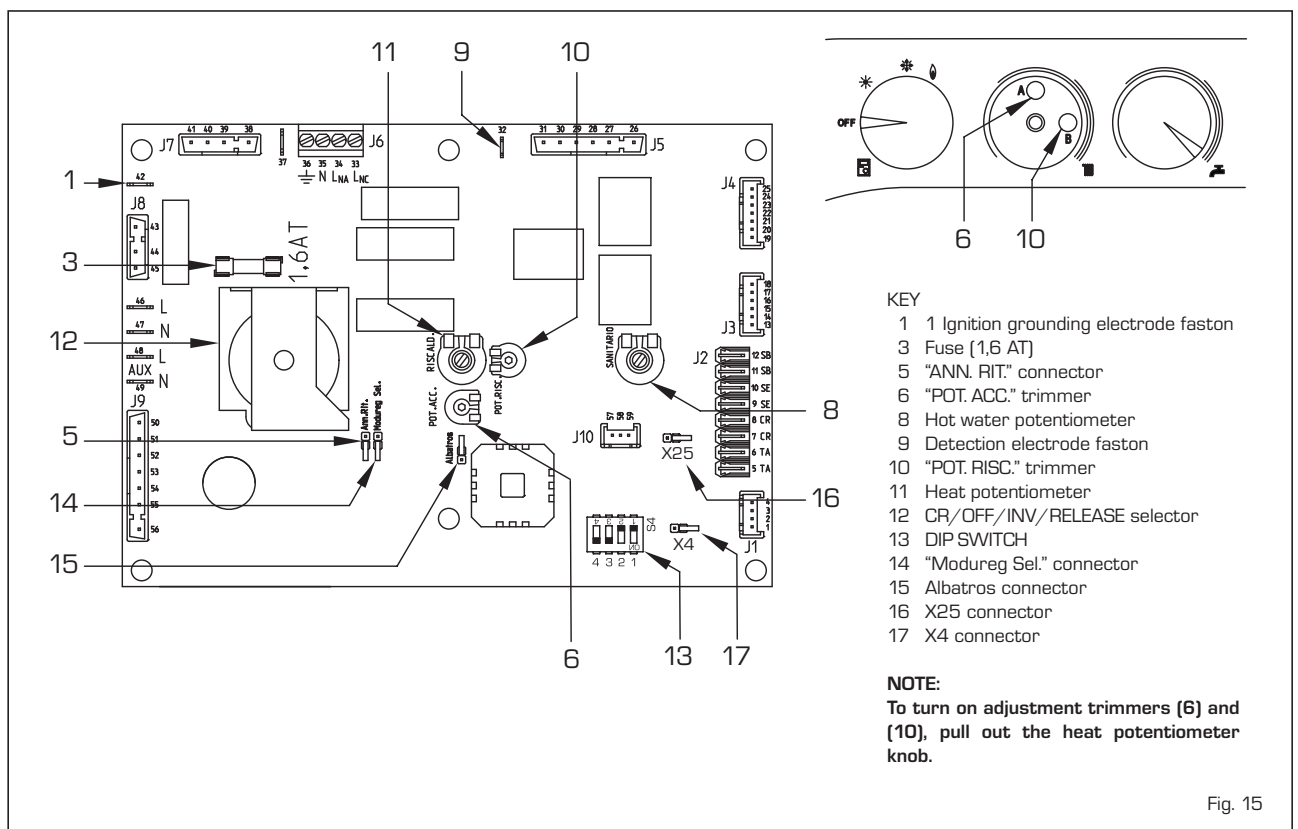

Fig. 15
- **"POT. RISC." trimmer** (10 fig. 15)
- **"POT. ACC." trimmer** (6 fig. 15)
- **"ANN. RIT." connector** (5 fig. 15)
- **DIP SWITCH** (13 fig. 15)
- **"Modureg Sel." connector** (14 fig. 15)
- **"Albatros" connector** (15 fig. 15)